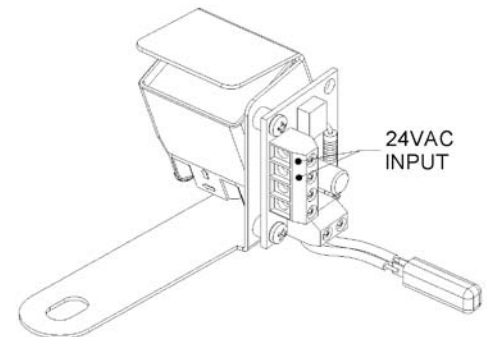

Figure 3
2. If heater and blower are included, connect 18-2 cable to the terminal block labeled INPUT (see Figure 3).